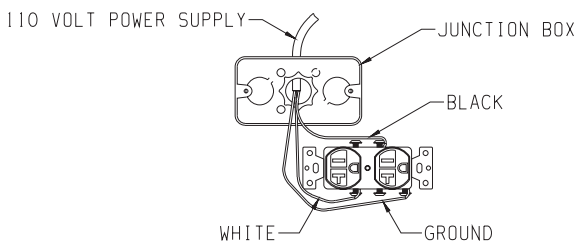

Figure 12
**Note:** Junction box on right side of firebox must be pre-wired at time of firebox installation for use with blower assembly. A standard wall ON/OFF wall switch or optional SCV1 Variable Speed Control Kit should be installed to activate power to the Firebox, and control the operation of the FBB5 Blower assembly. It is recommended that installation of the wiring be performed by a qualified electrician. **See Figure 12.**